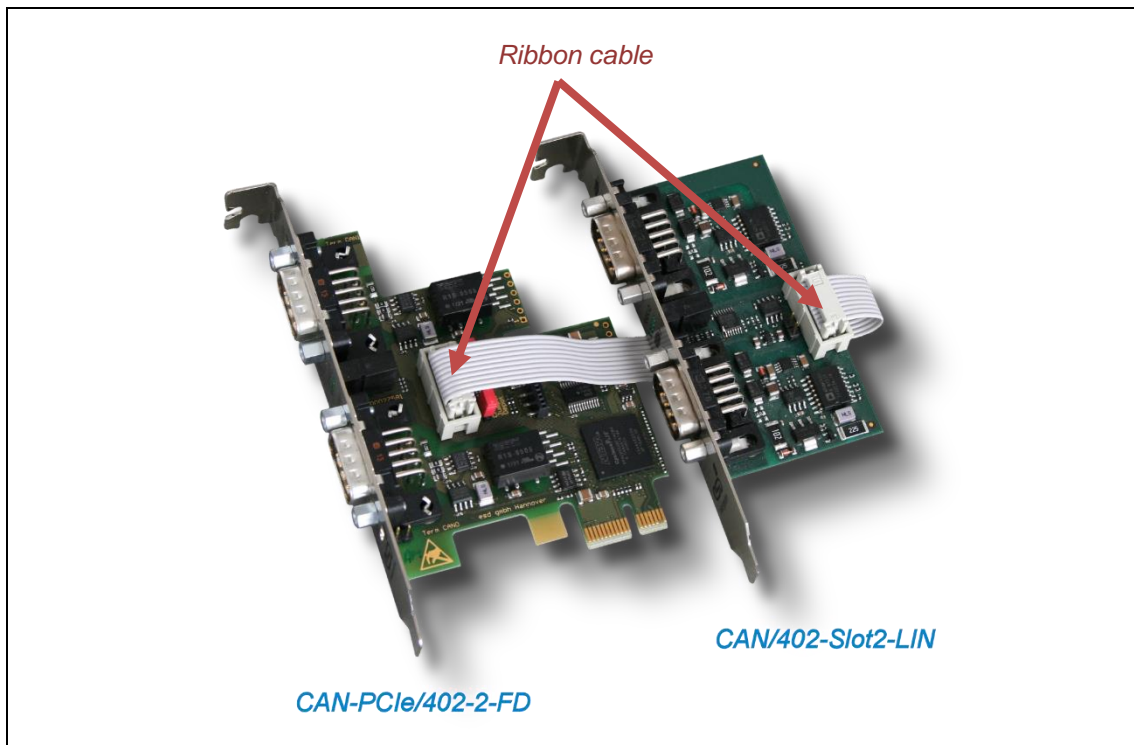

Figure 5: Example: CAN/402-Slot2-LIN connected to CAN-PCIe/402-2-FD
6. Use the ribbon cable supplied with the CAN/402-Slot2-LIN to connect it to the CAN-PCI(e)/402 board, as described in Figure 5. Connect the ribbon cable to the shrouded box header (X3) on the CAN/402-Slot2-LIN board and to the shrouded box header on your CAN-PCI(e)/402 board.
8. Insert the CAN/402-Slot2-LIN to the right of the CAN-PCI(e)/402 into the selected slots. Be sure to route the connection cable behind the LIN adapter to the CAN board as shown in Figure 5. Carefully push the boards until they snap into place. Fasten the front panels with a screw if necessary.